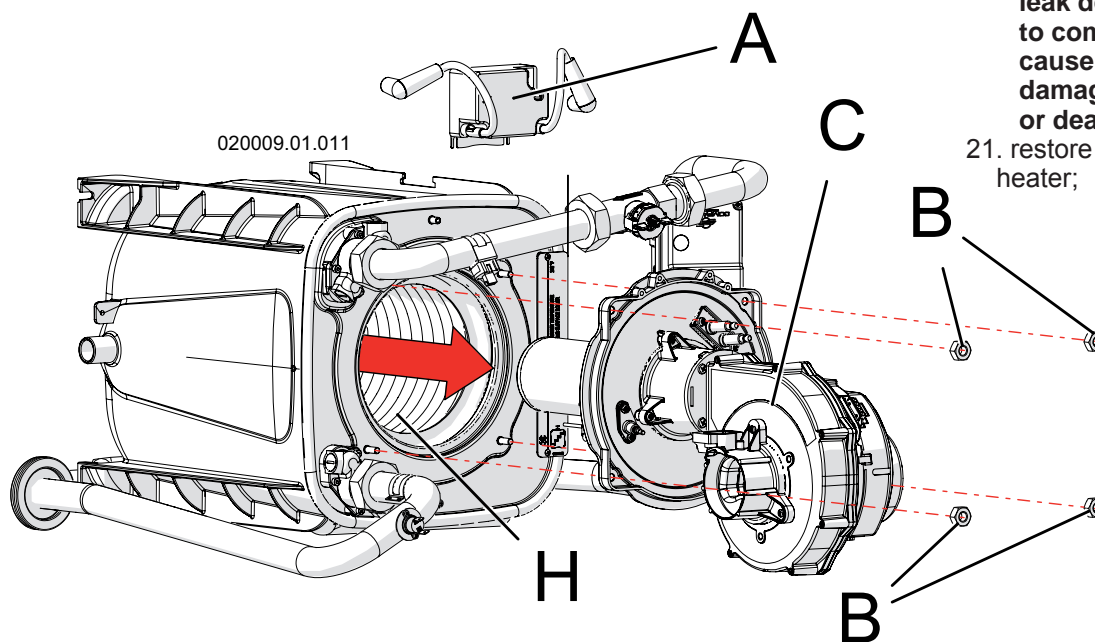

Figure 15-7 Remove the fan burner assembly
11. unscrew the four nuts "B" in Figure 15-7;
12. remove the entire fan - burner assembly, detail "C" in Figure 15-7;
13. use a cylindrical brush with plastic bristles to clean the inside of the combustion chamber, detail "H" in Figure 15-7;
14. use a vacuum cleaner to remove any unburned residue from the combustion chamber "H" in Figure 15-7;
while performing the next step, carefully wash only the inside of the combustion chamber "H" of Figure 15-7, and do not get water on the outside of the combustion chamber opening. Failure to comply with this warning can cause extensive property damage, severe personal injury or death!
16. using only water, wash the inside of the combustion chamber, detail "H" in Figure 15-7. The water, will drain into the condensate drain;